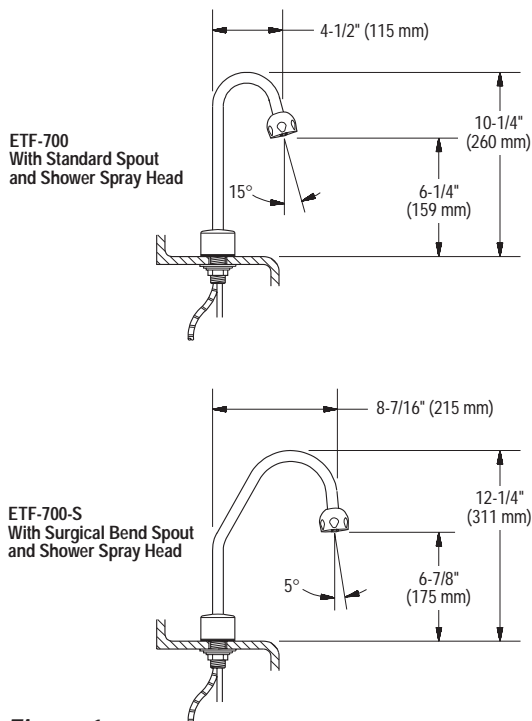

Figure 1
## FAUCET ROUGH-IN — Figure 1
Prior to installing the Sloan OPTIMA Series Faucet, install the items listed below. Also, refer to Figure 1.
The Sloan OPTIMA ETF-700 Sensor Operated Gooseneck Faucet is a pre-tempered faucet. A pre-tempered water supply line or a mixing valve (ordered separately or supplied by others) must be used in conjunction with the faucet. When connecting the faucet to a hot and cold water supply, it is recommended that two back checks be installed as shown in Figure 1. When connecting the faucet to a single line water supply or a pre-tempered water supply, a back check is not required.
**Step 4 — Connect Supply Line(s) (Figure 1)**
When connecting the Faucet to a hot and cold water supply, two Back Checks are required as shown in Figure 1.
Install a 3/8 inch copper Supply Tube between each Back Check and the Compression Tee Fitting supplied (refer to Figure 1).
Refer to Figure 1 — Faucet Rough-In for Additional Information.
### Step 6 — Mount Control Module to Wall (Figures 1 and 10)
Install the Control Module in an appropriate location as shown in Figure 1. Control Module must be installed so that all cables enter from the bottom of the unit. When installed, Cables from the Sensor and Solenoid Valve to the Control Module should have some slack.